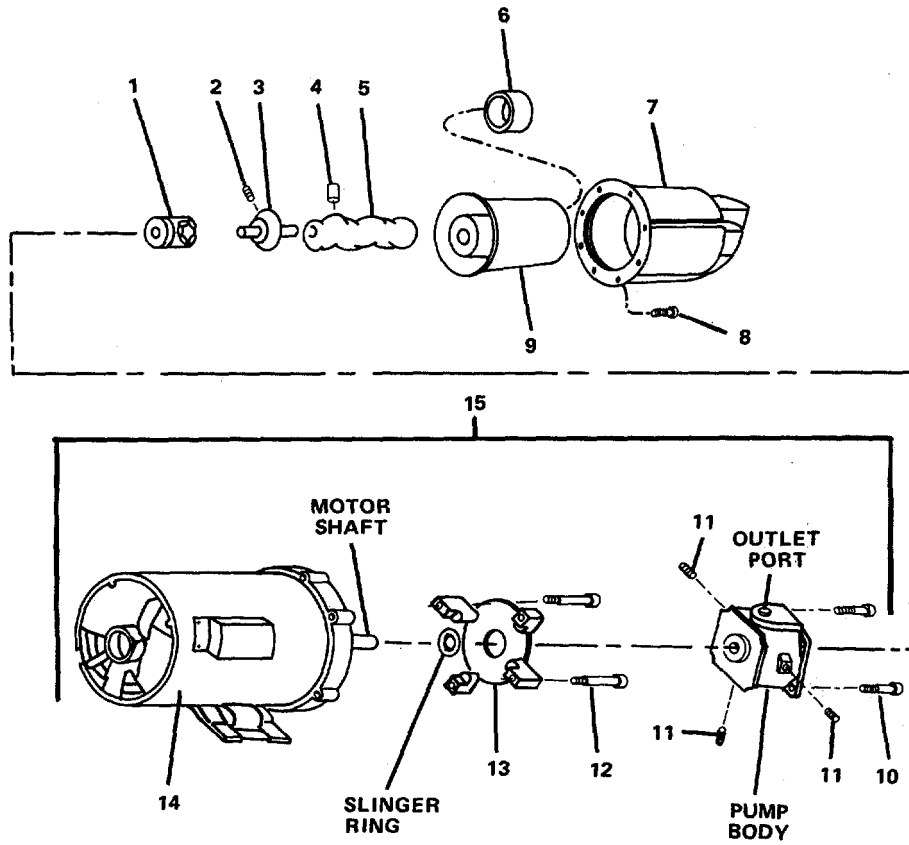

FIGURE 4-10. Motorized Oil Pump.
- o. Release the Calibration Check Switch (10) and observe that the Digital Display (2) still reads zero (00).
- p. Close and secure side panel cover (4) of control module (3) with two machine screws (5).
**4-20. Repair Motorized Oil Pump Assembly. (Figure 4-10)**